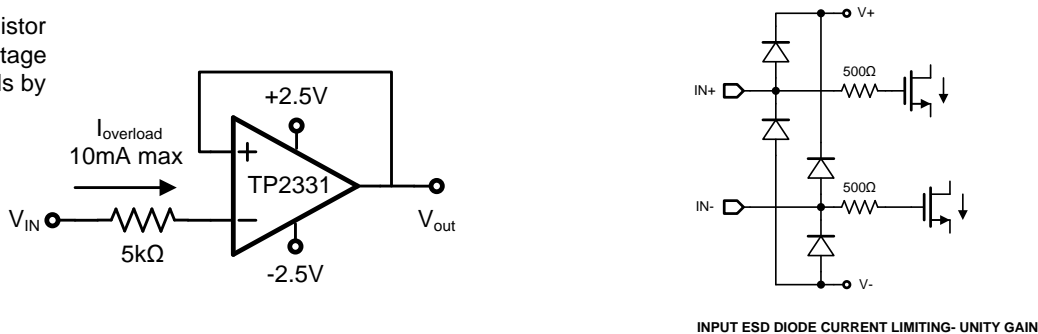

Figure2. Input ESD Diode
The TP2331 incorporates internal electrostatic discharge (ESD) protection circuits on all pins. In the case of input and output pins, this protection primarily consists of current-steering diodes connected between the input and power-supply pins. These ESD protection diodes also provide in-circuit input overdrive protection, as long as the current is limited to 10 mA as stated in the Absolute Maximum Ratings table. Many input signals are inherently current-limited to less than 10 mA; therefore, a limiting resistor is not required. Figure 2 shows how a series input resistor (RS) may be added to the driven input to limit the input current. The added resistor contributes thermal noise at the amplifier input and the value should be kept to the minimum in noise-sensitive applications.